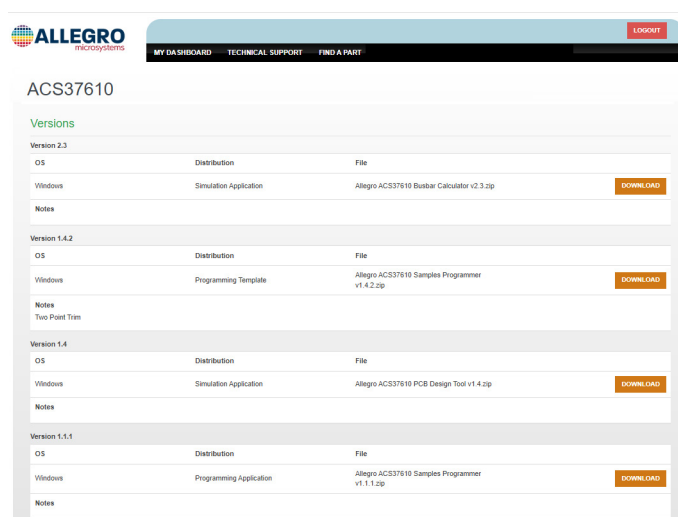

Figure 6: Download Button Opens Programming Application
7. Click the download button next to the programming application ZIP file to open the programming application ZIP file, as highlighted in red in Figure 6.